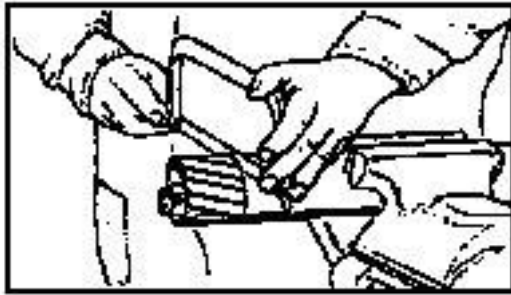

Fig. 18: Cut off the PTO shaft guard
5. Cut off the PTO shaft guard to the marking (see Fig. 18).